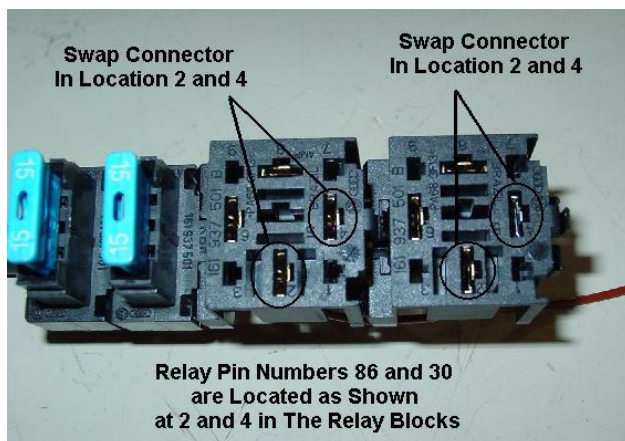

Fig. 2a Location of Connector to Swap
2. To change the wiring for the Tyco relays, pin 86 and 30 must be swapped at the relay holder. Locations of these connectors are identified as 2 and 4 on the holder. (See Figure 2a) Wires in location 2 (moving to 4) must correspond with pin 86 on the relays. This is the brown ground wire that loops together. Wires in location 4 (moving to 2) must correspond with pin 30 on the relays. This is the red supply wire that also loops together.